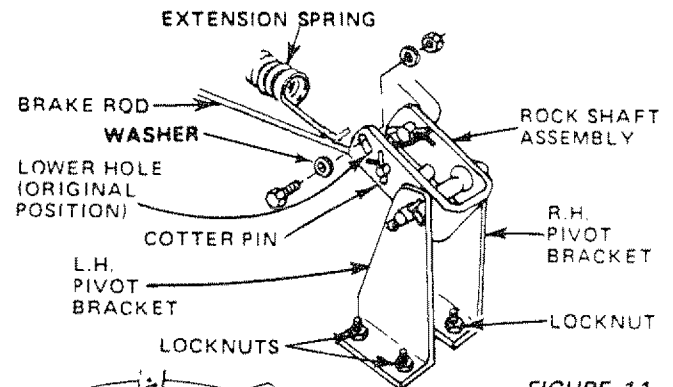

FIGURE 11
- Using (2) 7/16" wrenches, remove the two washers from the rock shaft assembly (Fig. 11).
- Move extension spring from lower end of slot to upper end in rock shaft assembly and install the two washers (Fig. 11).
- Remove cotter pin from brake rod (Fig. 11).